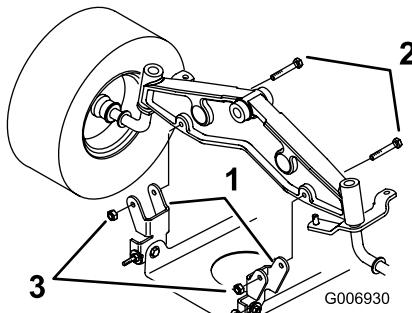

Figure 38
8. Remove the bolts and lock nuts and pull the two mower pivot mount brackets down from the front axle (Figure 38).